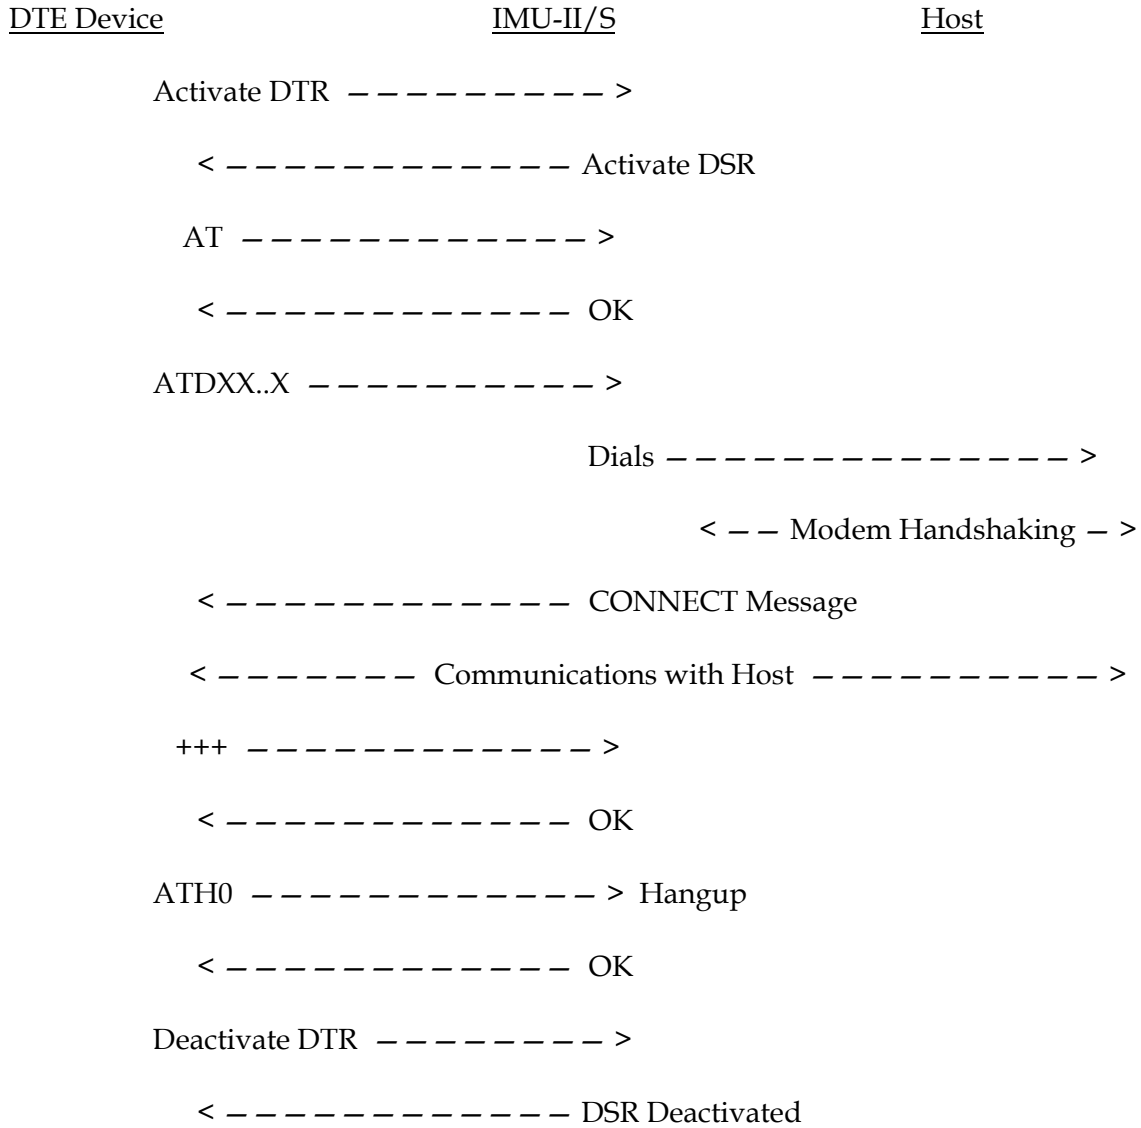

Figure 4-1 AT Command Call Origination
The IMU-II/S can be forced by the DTE to originate a call by the use of AT commands. The steps required to originate a call using AT commands is shown in Figure 4-1.
2. Call origination under AT command control. The IMU-II/S can be forced to originate a call by using AT commands. The steps shown in Figure 4-1 must be performed to originate a call. After the IMU-II/S detects that its DTR input has been activated it will wake-up and activate the DSR output on port 1. If an AT command string is not received from port 1 within 2 seconds the IMU-II/S will clear the port 1 DSR and activate the port 2 DSR. The IMU-II/S will then look for an AT command string from port 2. If the command is not received within 2 seconds the IMU-II/S will switch back to port 1 and repeat the process. The IMU-II/S will repeat the initial sequence 5 times in an effort to establish a connection.